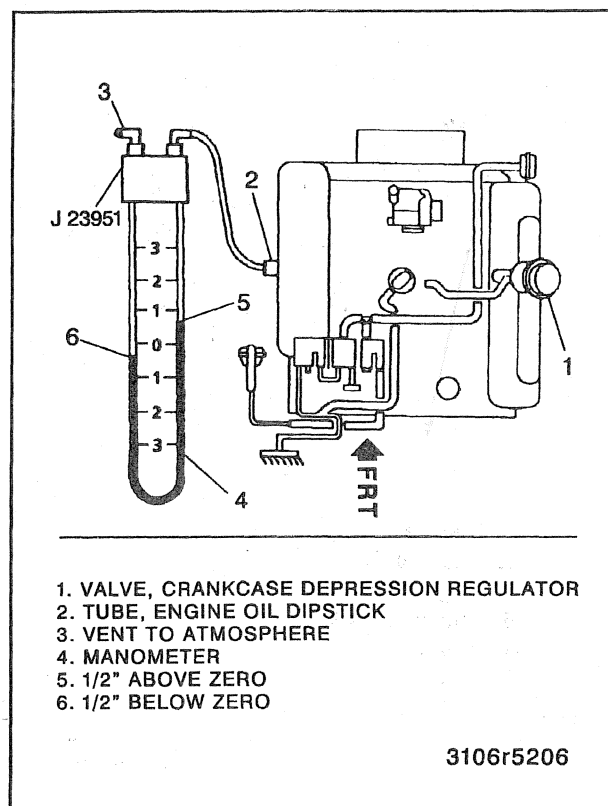

Figure 5—CDR Valve Test
The CDR valve is checked with a water manometer. The U-tube manometer (figure 5) indicates pressure or vacuum by the difference in the height of two columns of fluid.
3. Start the engine and observe the manometer reading. It should read one inch of water pressure at idle to approximately 3 to 4 inches of water vacuum at full load. Add the amount that the manometer column travels up, to amount column travels down to obtain total psi/vacuum. An example of a manometer reading is as follows: One-half inch above zero plus one-half inch below zero equals one inch vacuum reading ($1/2'' + 1/2'' = 1''$) (figure 5).